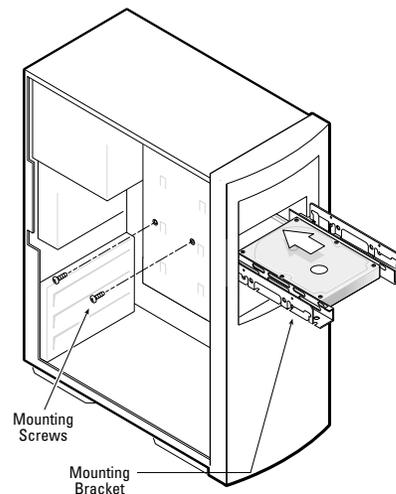

Figure 9. Typical 5.25-inch Device Bay Installation with Mounting Brackets
3. **Once you have attached the brackets to the hard drive, mount the hard drive in the 5.25-inch bay using four of the provided screws.** Mount the hard drive as close to the bottom of the device bay as possible with the label facing up. See Figure 9.
5.25-inch device bays usually have a plastic cover that can be removed to expose the device bay. Figure 9 shows the a 5.25-inch device bay with the plastic cover removed.